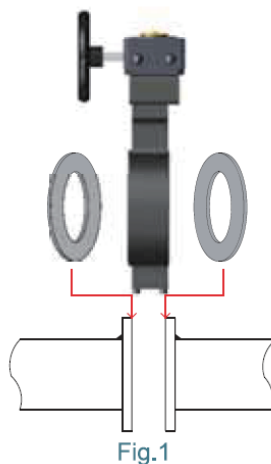

Fig.1
- Carefully place the gasket between the flanges and place them in the center of the pipe to ensure a good seal. (see Fig.1)